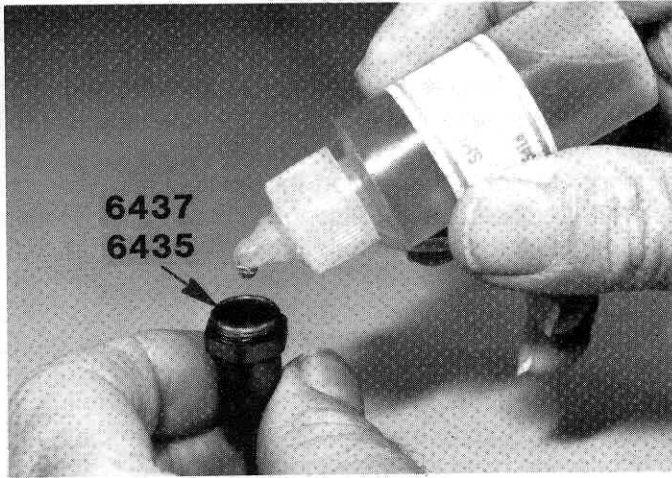

Fig. 94
□ **Fig. 94** Put a few drops of oil into the #6426 front and #6424 rear shock bodies to make assembly easier also. We don't want to cut the red O-rings on assembly.